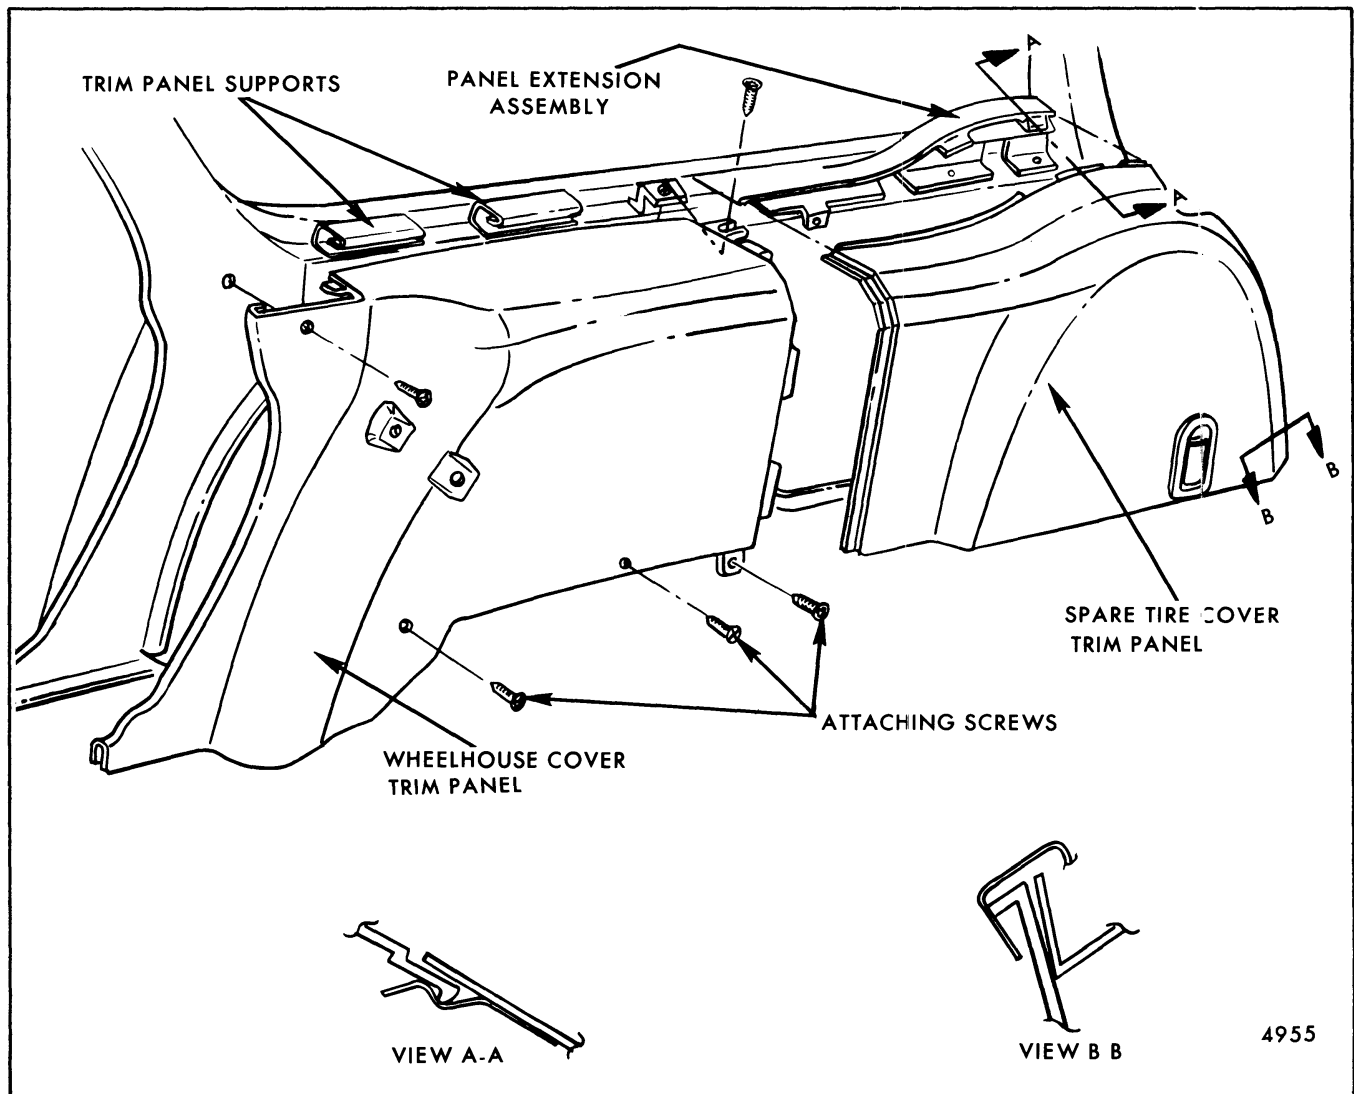

Fig. 6-17-Wheelhouse and Spare Tire Trim Cover Panel - "A" Station Wagon Styles
6. On "A" styles disengage edge of trim cover panel from supports and move forward to release from lock pillar flange (Fig. 6-17).
On "A" styles the spare tire cover is retained by two (2) tabs that engage the front flange of the wheelhouse panel when placed in position. The cover panel is also secured at the top by snap supports and along the back when inserted between the back body pillar molding and clip (Fig. 6-17). To remove cover open catch and disengage panel by pulling inboard at rear and top. Then move panel rearward to separate from wheelhouse cover tabs Figure 6-17.